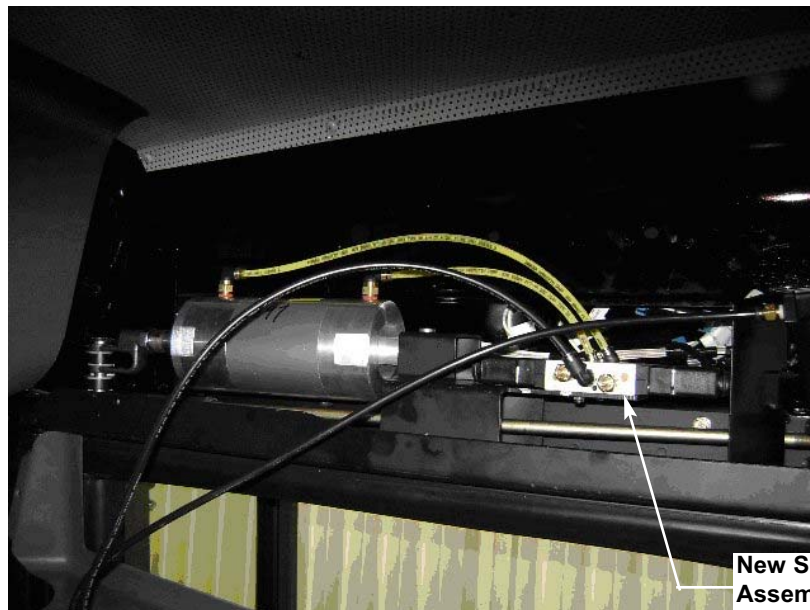

Figure 13
- 2.8 Assemble new Solenoid Valve, #TBB 136969 using Machine Screw, 6-32 x 1.25, #TBB 69002253 and Nylon Locknut, 6-32, #TBB 69004247. **Figure 13**